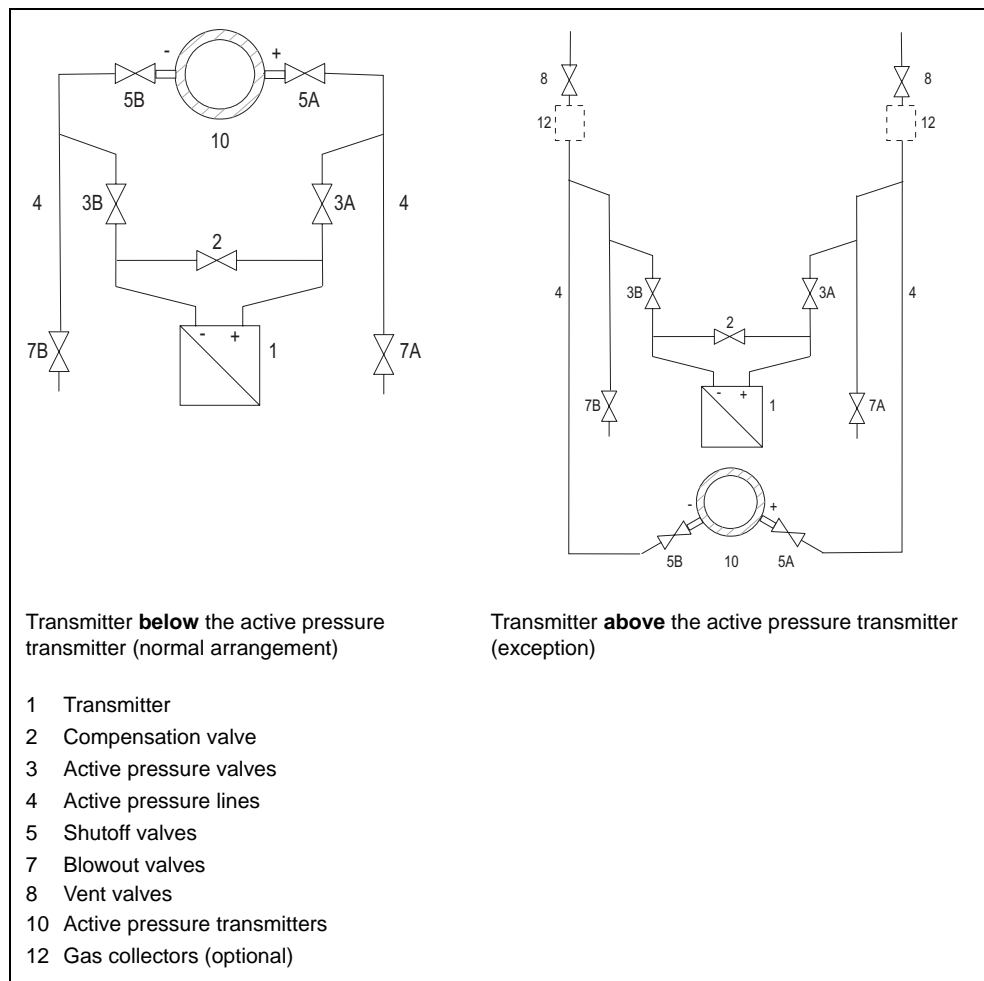

Figure 35 Measuring liquids
1. Open both shutoff valves (see (5) Figure 35) at the pressure taps
2. Open the compensation valve (2).
3. With the **transmitter below the active pressure transmitter** open both blowout valves (7) one after the other, with the **transmitter above the active pressure transmitter** open both vent valves (8) slightly until air-free liquid emerges.
4. Close both blowout valves (7) or vent valves (8).
5. Open the active pressure valve (3A) and the vent valve at the high pressure chamber of the transmitter (1) slightly, until air-free liquid emerges.
7. Open the vent valve at the low pressure chamber of the transmitter (1) slightly until air-free liquid emerges.
10. Close the vent valve at the low pressure chamber of the transmitter (1).